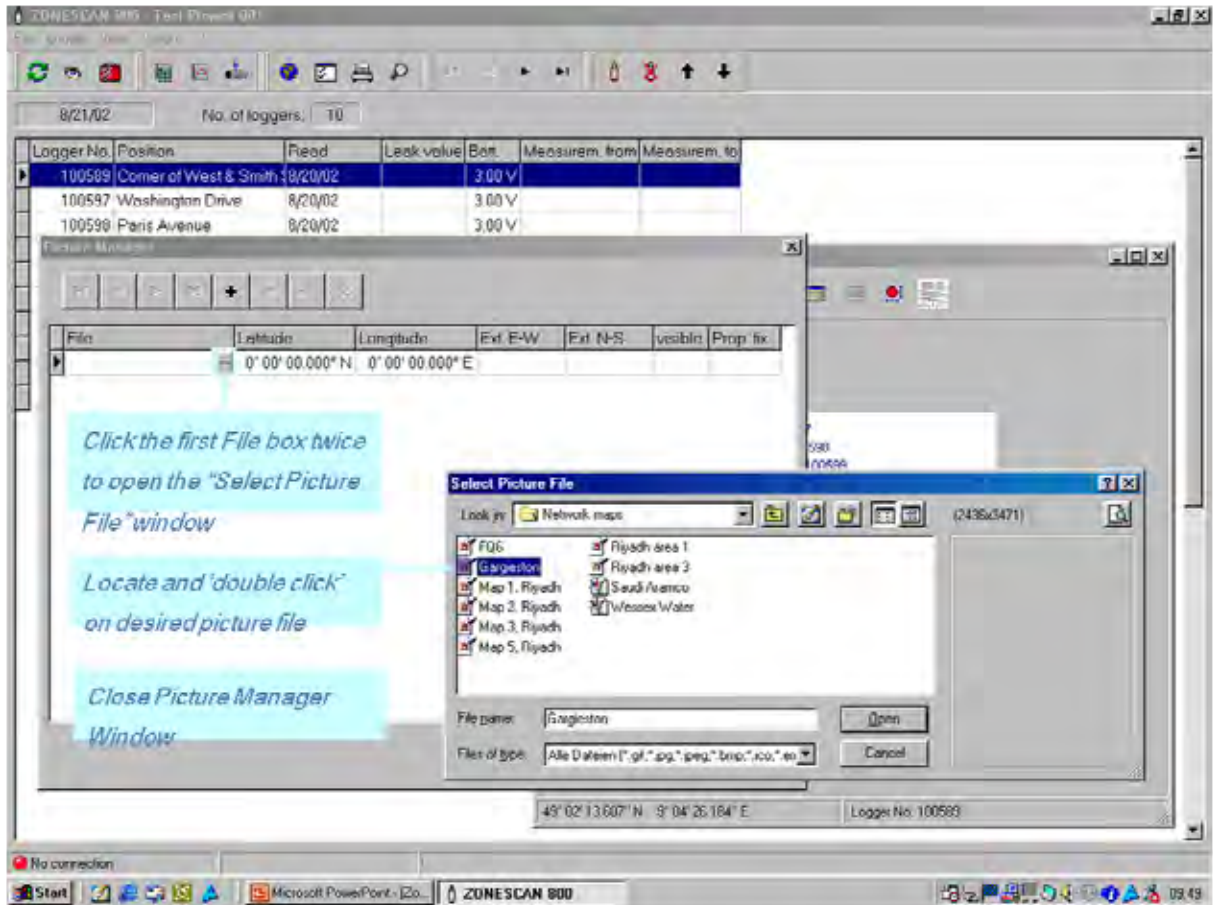

Fig16.1 Picture manager
Step 3. Click the first File box twice to open the "Select Picture File" window. Locate and 'double click' on desired picture file then close Picture Manager Window. See Fig.16.1